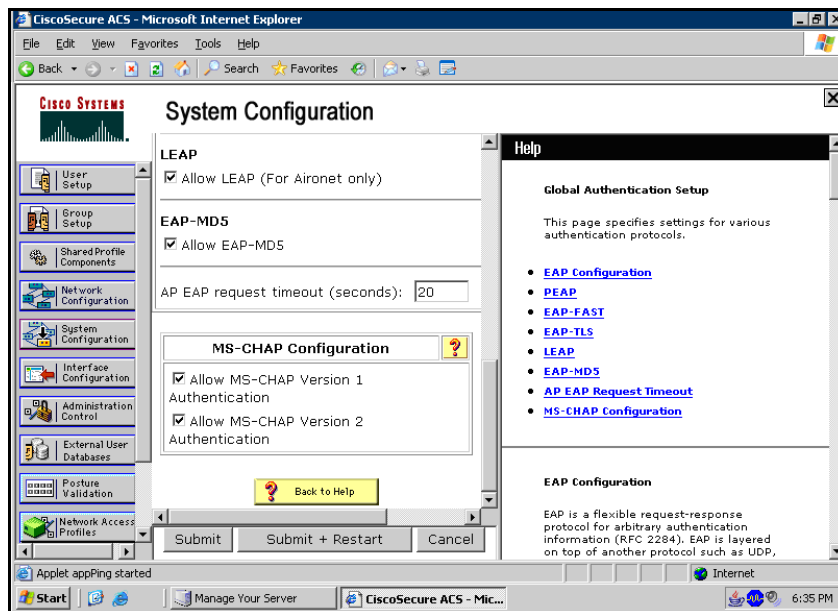

FIG. 67 EAP-LEAP sample Cisco System Security page
- Refer to FIG. 67 for an example of how a typical EAP-LEAP system configuration page should appear.